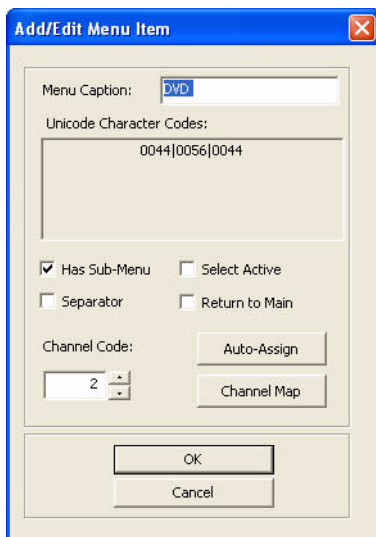
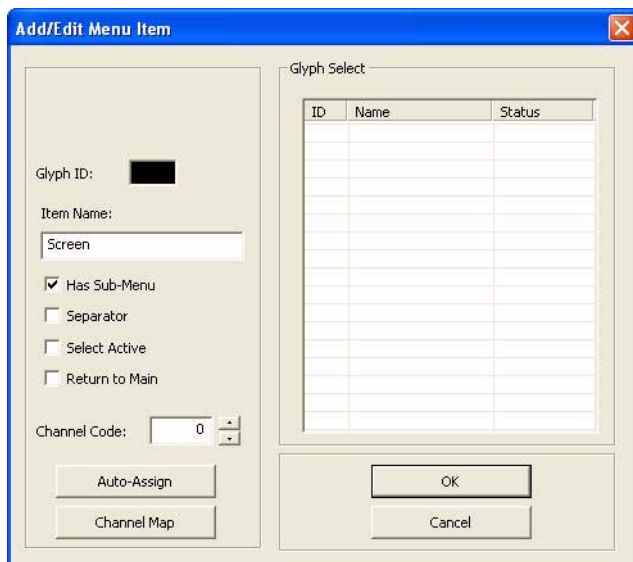

FIG. 9 Add/Edit Menu Item dialog (Unicode)
FIG. 10 Add/Edit Menu Item dialog (Complex Script)
With *Menu Type* set to **Unicode** in the Edit Keypad Menu dialog (FIG. 9), double-click on either a Main Menu item or a Sub-Menu item in the Fixed-Menu Configuration dialog to access the Add/Edit Menu Item dialog (FIG. 9).
1. In the *Fixed Menu Edit* dialog, double-click **Add Menu Item** in the *Main Menu* field. This invokes the *Add/Edit Menu Item* dialog (FIG. 9).
With *Menu Type* set to **Complex Script** in the Edit Keypad Menu dialog (FIG. 9), double-click on either a Main Menu item or a Sub-Menu item in the Fixed-Menu Configuration dialog to access the Add/Edit Menu Item dialog (FIG. 10).
1. In the *Fixed Menu Edit* dialog, double-click **Add Menu Item** in the *Main Menu* field. This invokes the *Add/Edit Menu Item* dialog (FIG. 10).